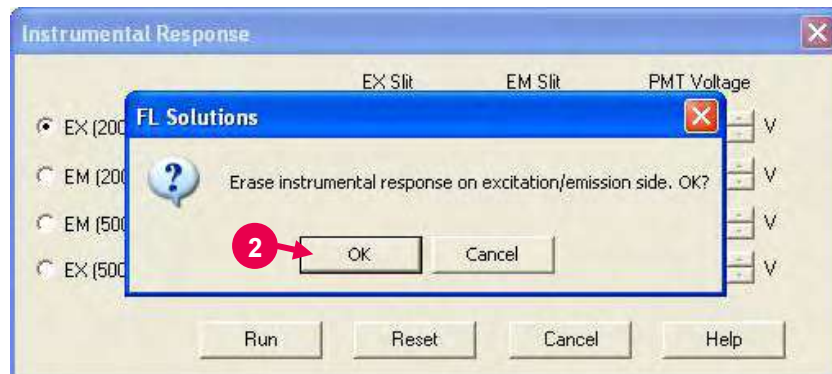

Fig. F-16
- (2) A message box "Erase instrumental response on excitation/emission side. OK?" will appear. Click the **OK** button. (Refer to ② in Fig. F-16.)